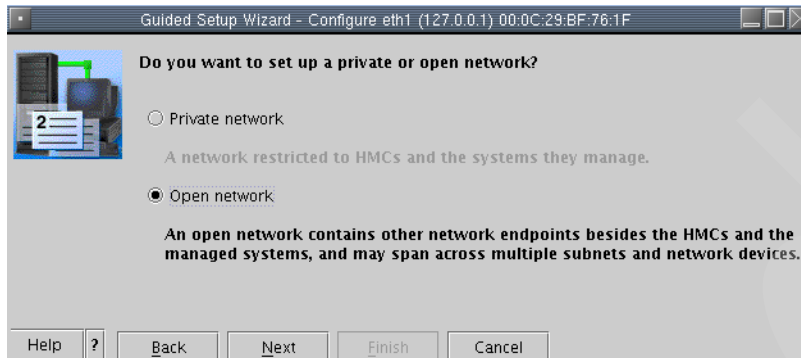

Figure 4-21 Guided Setup - Configure eth1 open network
21. The Guided Setup Wizard - Configure eth1 panel is now shown (Figure 4-21 on page 122). This time we select the Open network radio button and click **Next** to continue.